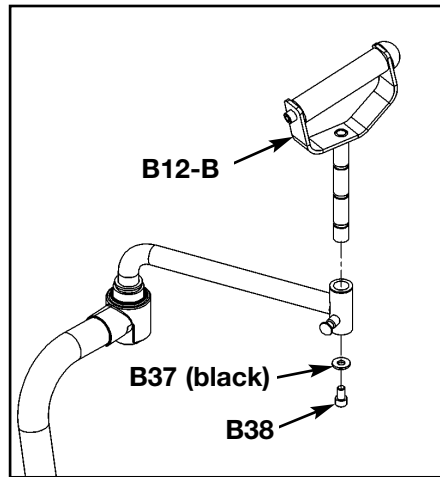

Figure 12B
- C.** Install handle (#B12-B - with bumper) on user position left side using one black flat washer (#B37) and one SHCS .375-16 x .625 (#B38) as shown in Figure 12B.